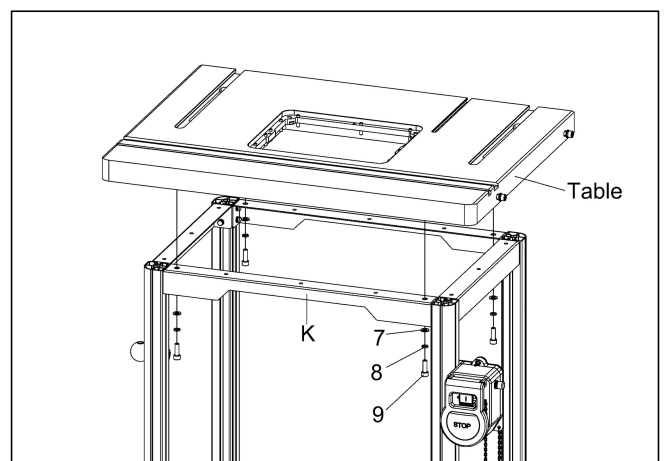

Fig.11
h. After assembling the legs and top brackets to the base platform, now it is time to attach your router table. Set the router table on to the top bracket (K) and use the provided fasteners (#7, #8, and #9) to secure the router table as shown in **Fig.11**.